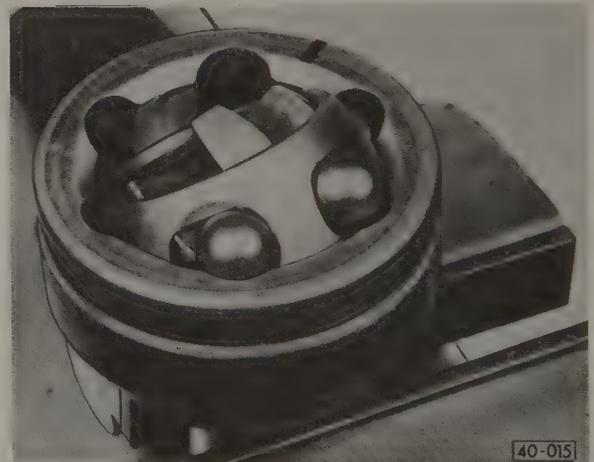

Fig. 5-12. Hub and cage of outer CV joint swivelled for removal of balls. Notice mark on outer housing. Similar marks should be made on hub and cage.
- Swivel the cage and hub as shown in Fig. 5-12 to remove the balls one at a time. Keep track of the removed balls so that they can be reinstalled in the same relationship to each other and to the marked hub and cage.